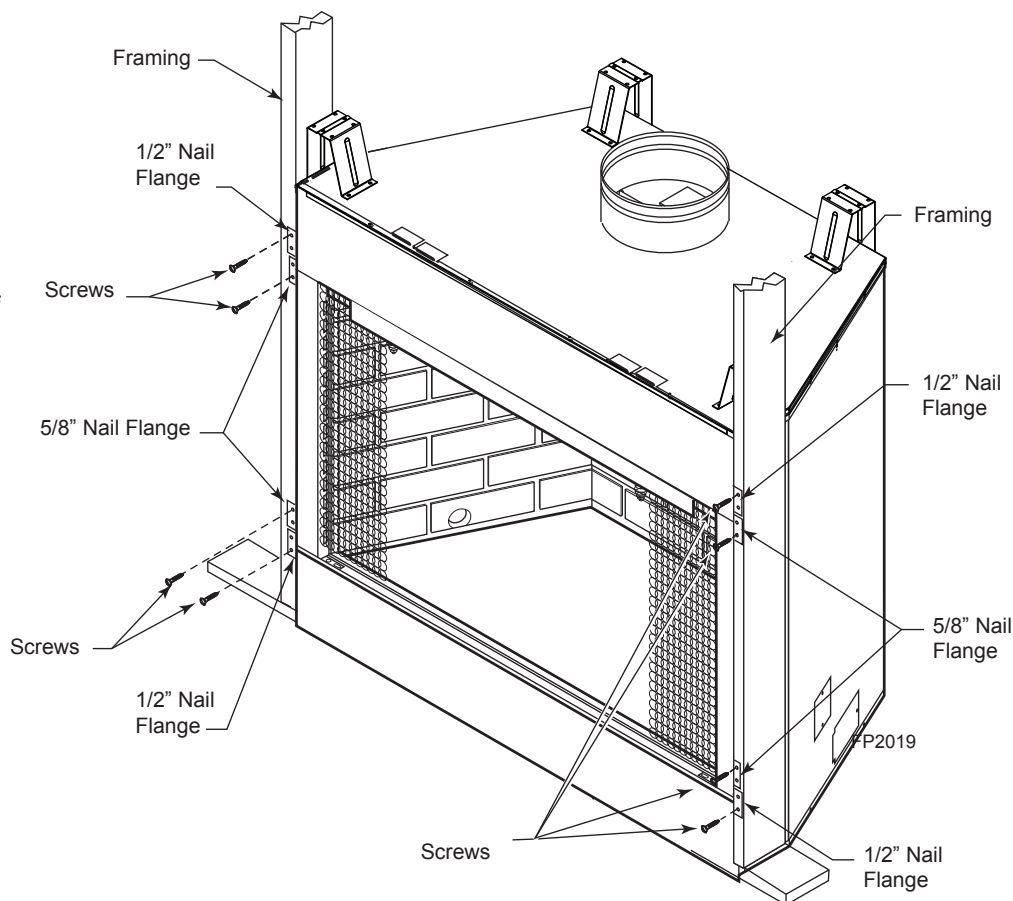

**Figure 5 -**
The fireplace must be secured to the floor and/or to framing studs as shown in *Figure 5*. Use two (2) wood screws or masonry/concrete screws to secure fireplace to the floor. Use four (4) screws to attach fireplace to framing. The side brackets are adjustable from 1/2" to 5/8" to accommodate different thicknesses of material.